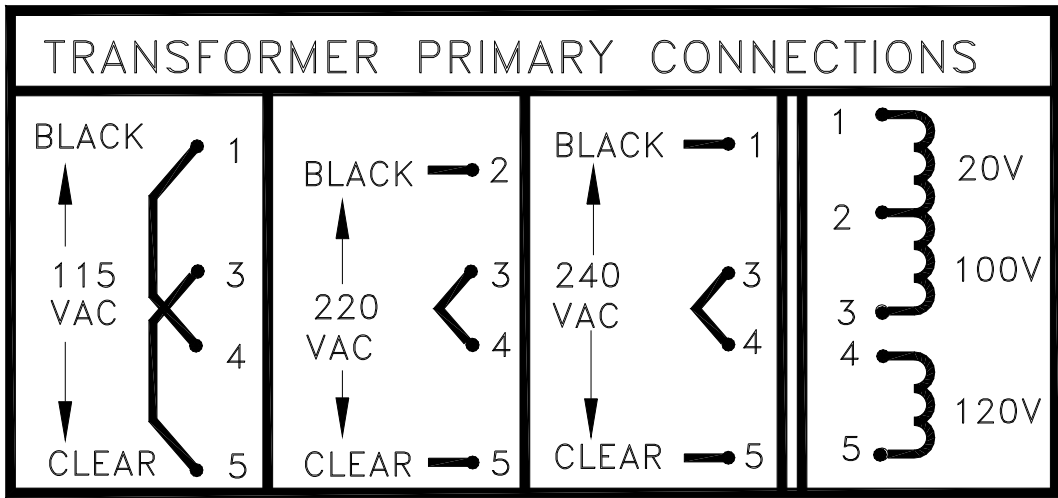

FIGURE 1
7. Locate the power transformer inside the Power supply module. Follow Figure 1 on the next page and ensure that the transformer is set to 115VAC.